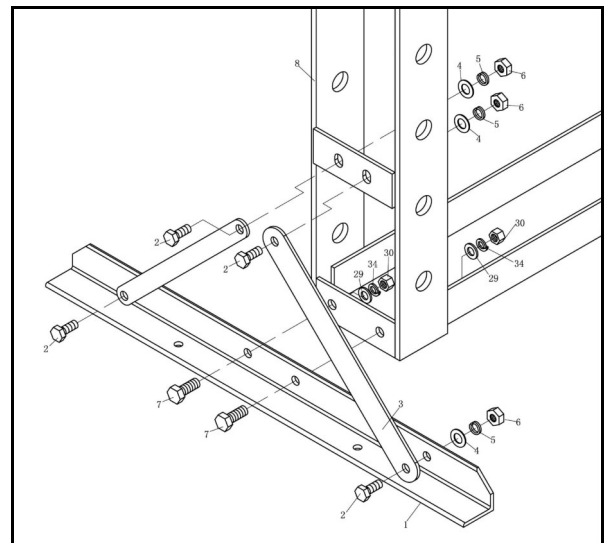

Fig. 5: Installing crossbeam feet
Step 1: secure the crossbeam feet and the two crossbeams to both sides of the frame using the screws, shims, spring washers and nuts (see Fig. 5).